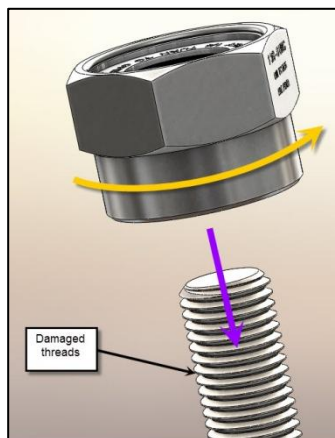

Figure 2 – Proper orientation of the QTC on damaged threads
- 3) With QTC in open position, manually install by rotating QTC slightly counterclockwise while simultaneously sliding the QTC over and past the damaged threads (see Figure 2). Rotating the QTC counterclockwise makes installation easier and ensures that the QTC becomes aligned (ie, parallel) with the bolt/rod before beginning Step 4.